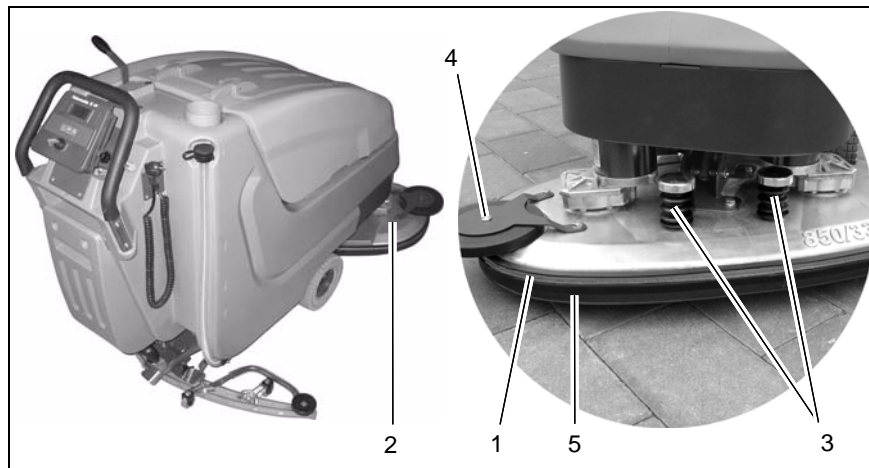

Fig.10
Clean brushes of the brush head (Fig. 10/2) at daily intervals or as required. Press brush ejectors (Fig. 10/3) down to remove brushes for cleaning.
1. Press brush ejectors (Fig. 10/3) down to remove old brushes.
Check deflector roller (Fig. 10/4) at weekly intervals or replace as required.
Check squeegee blades (Fig. 10/5) at weekly intervals or as required. Before doing so, open toggle-type fastener (Fig. 10/1) and remove squeegee blade. Proceed to mount in inverse order.